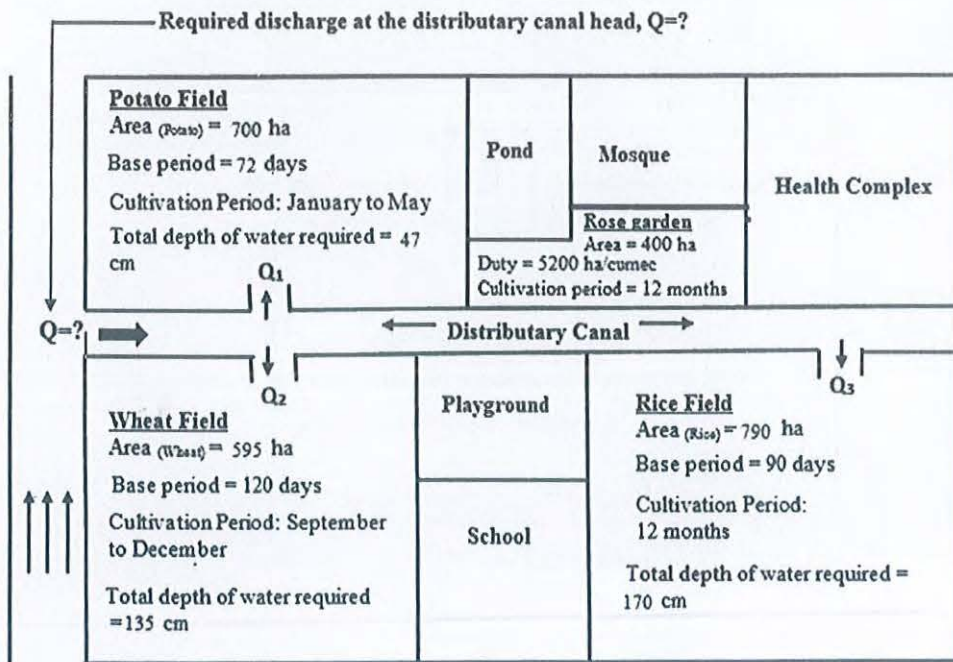

Figure 2
c) Find out the following by analyzing the data and information provided in **figure 2** below: